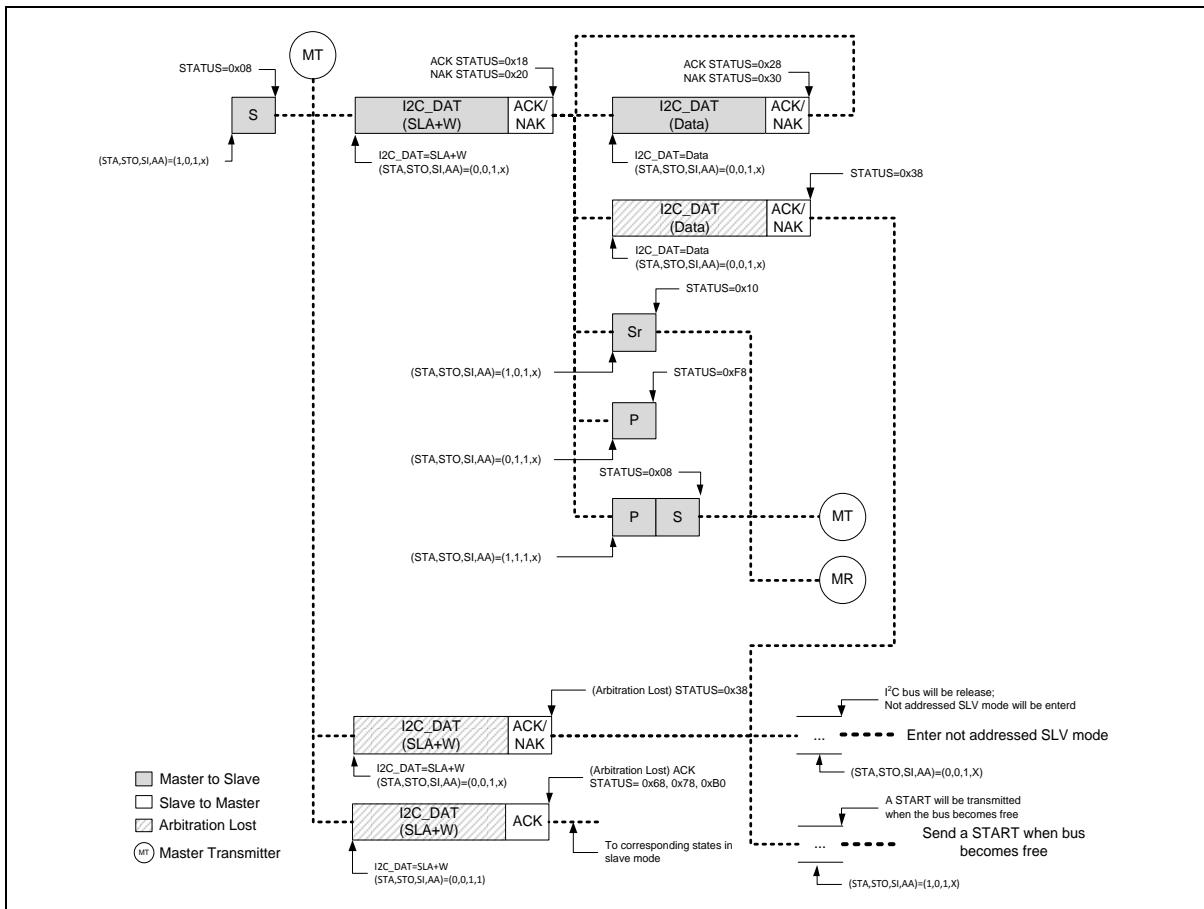
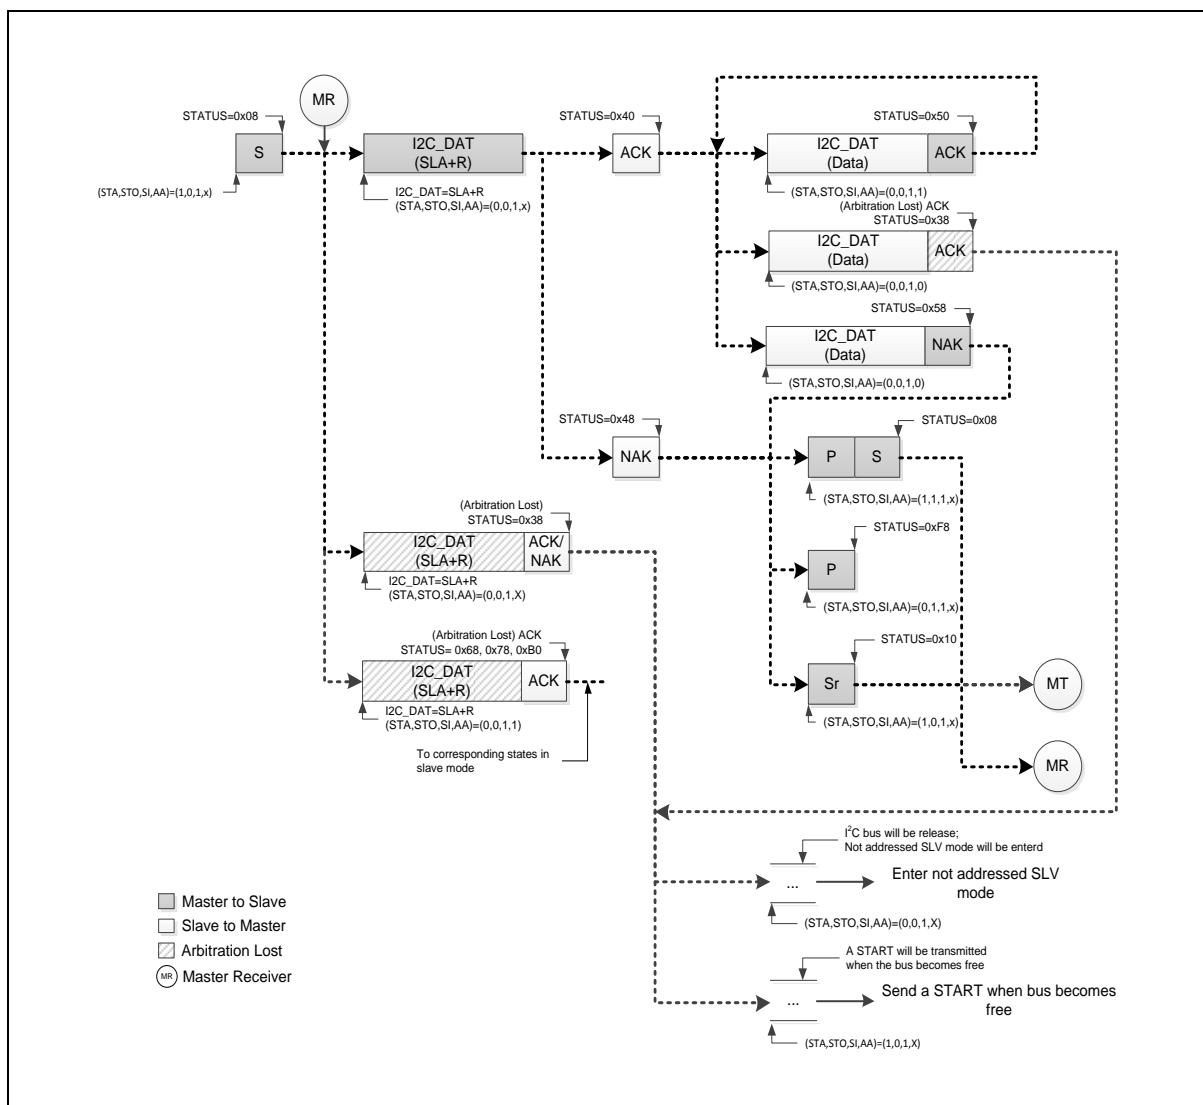

Figure 6.22-12 Master Transmitter Mode Control Flow
Figure 6.22-13 Master Receiver Mode Control Flow
In Figure 6.22-12 and Figure 6.22-13, all possible protocols for I²C master are shown. User needs to follow proper path of the flow to implement required I²C protocol.
(Figure 6.22-12) or Master receiver (MR) mode (Figure 6.22-13) after START signal has been sent successfully and new status code would be 0x08. Followed by START signal, user can send slave address, read/write bit, data and Repeat START, STOP to perform I²C protocol.